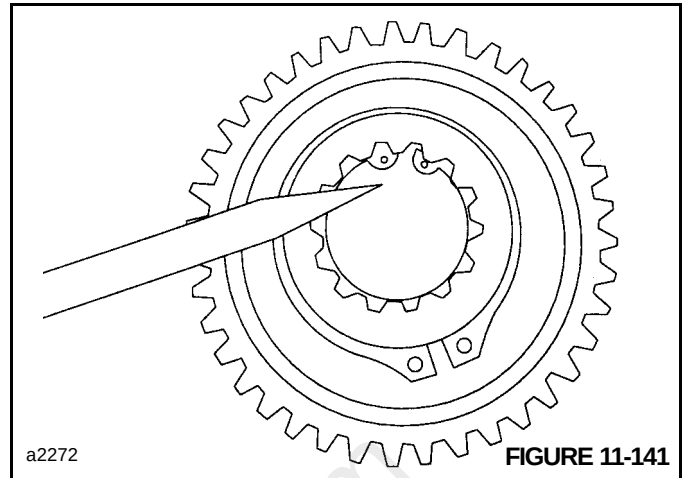

FIGURE 11-141
7. Figure 11-141 shows a completed clutch assembly.